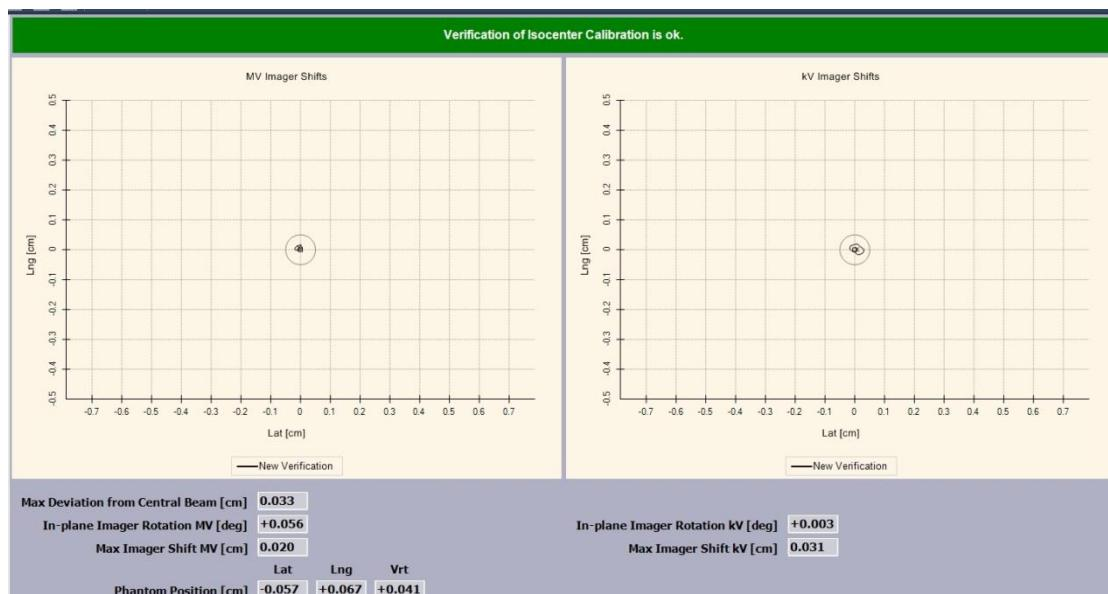

Figure 33: IsoCal Results (Passed Shown for System with KV option)
6. Record IsoCal verification status (PASS / FAIL) in the data table. See Figure 33.